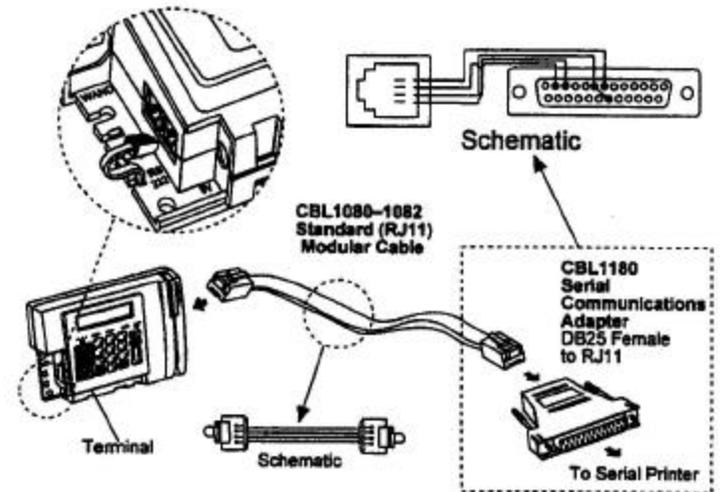

Figure 13: Serial Printer Connection
1. Connect a serial printer to the terminal per the diagram shown in Figure 13.